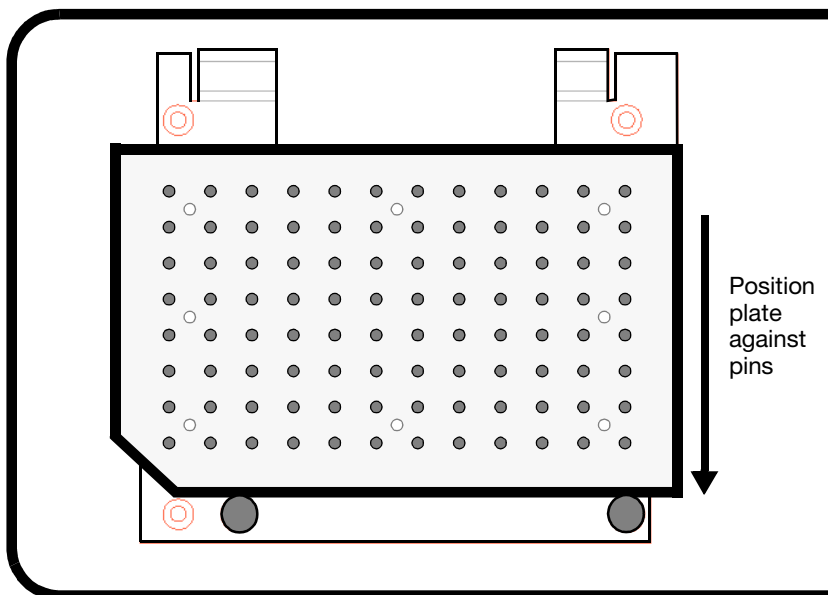

Figure 3-7 Loading Sample Plate
4. Place the sample plate on the load pad, with the notched corner of the plate facing the lower left, and the front edge of the plate flush against the pins on the front of the load pad (Figure 3-7).